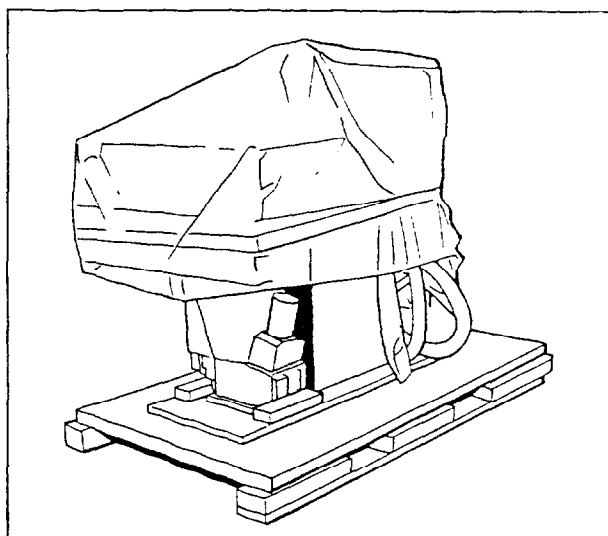

Fig. 1
- ◀ • Remove the side panels and the cover of the transport crate, if present (Fig.1).